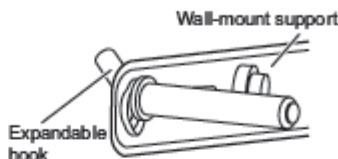

Fig.3
- Determine the installation position of the water heater. Based on the measurements indicated in at the bottom of page 1, use impact drill to drill two holes of 12mm in diameter and 65mm in depth. Insert the expandable hooks into the holes and ensure that they are securely fixed. Lift the water heater and slip its wall mount support onto the expandable hooks (as show in Fig.3). Check to make sure the machine is securely suspended. For accessories such as safety valve, please refer to the "Installation of Safety Valve" (for reference only). Make sure to seal the joints with Teflon tapes to prevent water leakage.